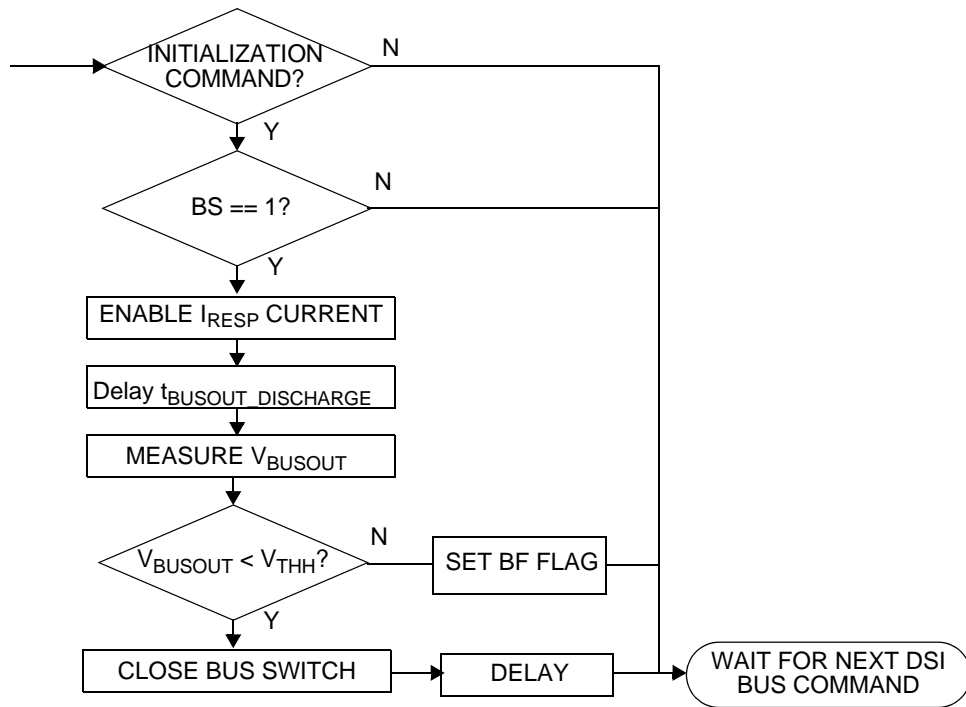

Figure 23. Initialization Sequence
Figure 23 illustrates the sequence of operations performed following negation of internal power-on reset (POR) and execution of a DSI Initialization command. The BUSOUT node is tested for a bus short to high voltage condition, and the bus fault (BF) flag is set if an error condition is detected. If no bus fault condition is detected and the BS bit is set in the Initialization command message, the bus switch will be closed. The device implements a blanking time ($t_{DSI_BLANK_INIT}$) to allow for the bus voltage to recover following closure of the bus switch.